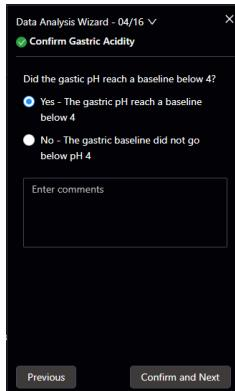

Figure 4-28 Data Analysis – Confirm Gastric Acidity
5) Confirm Gastric Acidity (Figure 4-28). Check the data graph to confirm whether the gastric pH has any values below 4, and select based on actual conditions. After selection, click [Confirm and Next] to proceed.